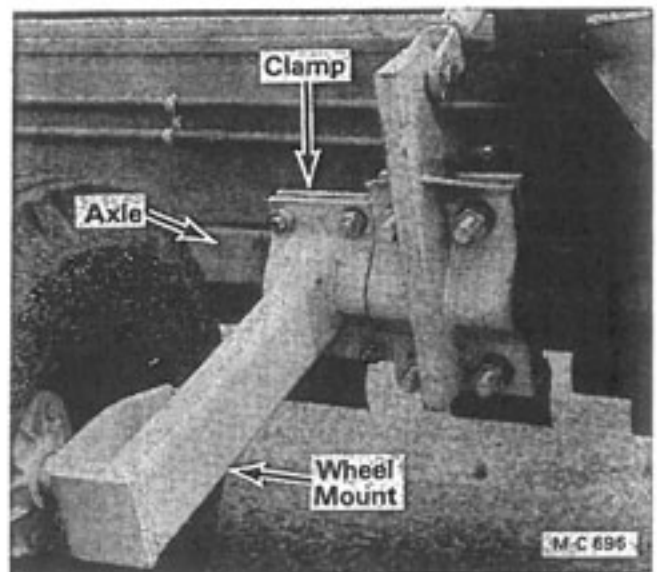

Figure 4 - 2408 w/Optional End Tow System
3. Position the inside wheels as close to the center of the Shredder as possible to eliminate unnecessary loads across the open span of the axle, see Figure 4.